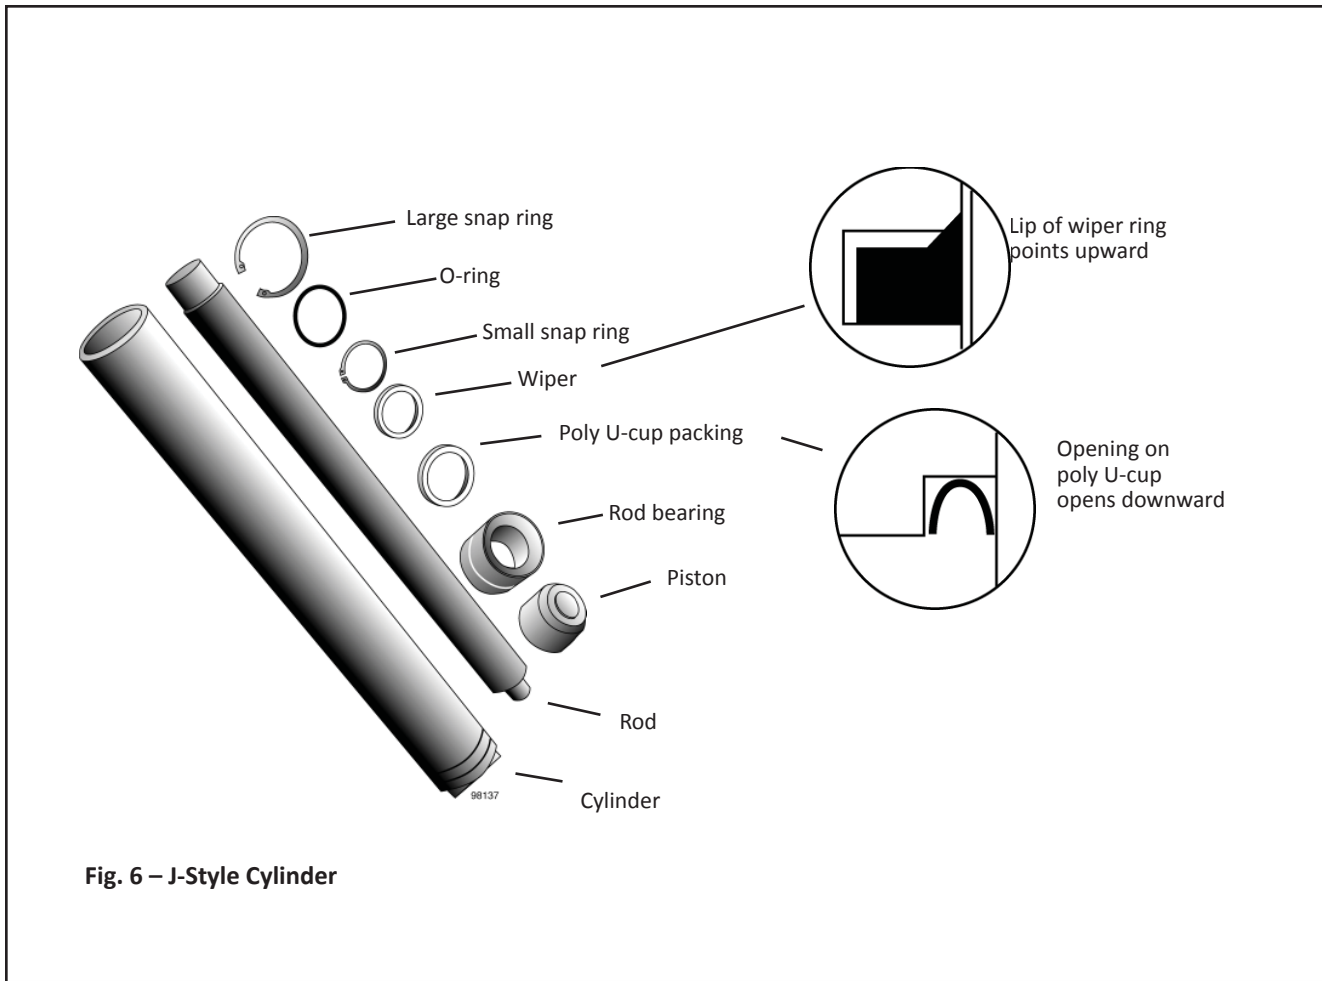

Fig. 6 – J-Style Cylinder
This section will tell you how to repack a “J-style” cylinder, shown in Figure 6. This type of cylinder is exclusive to Southworth, and repacking kits are only available through Southworth. To order a repacking kit, please call the Parts Department at (207) 878-0700 or (800) 743-1000. When ordering, specify the model number and serial number of the lift, and the cylinder number(s), as stamped on the base of the cylinder(s).
Figure 6 shows the parts inside a J-style cylinder. At the upper end of the cylinder, remove the large snap ring. Pull the rod and piston all the way out of the cylinder. This assembly is heavy! Be careful not to drop it as it comes free.
Be careful not to install the wiper backwards. The lip on the wiper should point upwards, as shown in the detail in Figure 6.